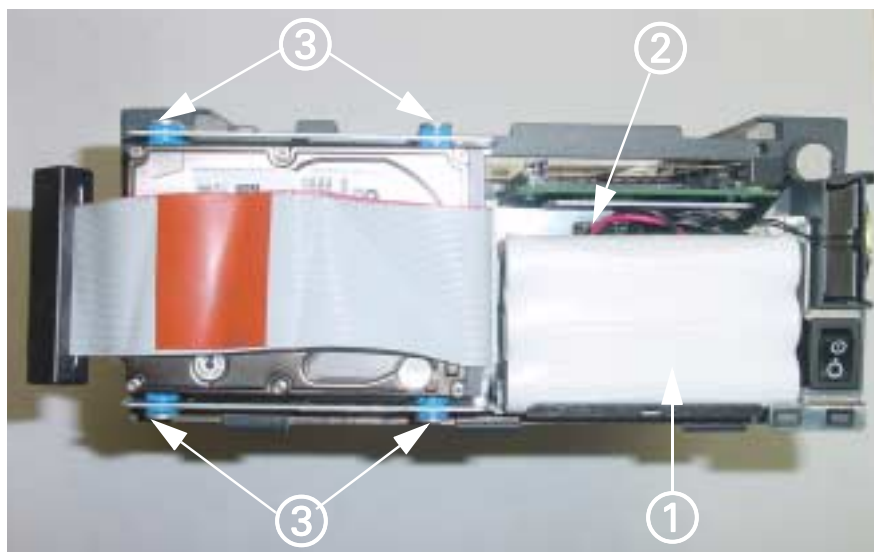

Figure 18-7 MDS (front view)
3. Remove and save 4 Phillips-head screws and sleeves (③ in Figure 18-7) that secure primary hard drive to top and bottom of front housing.